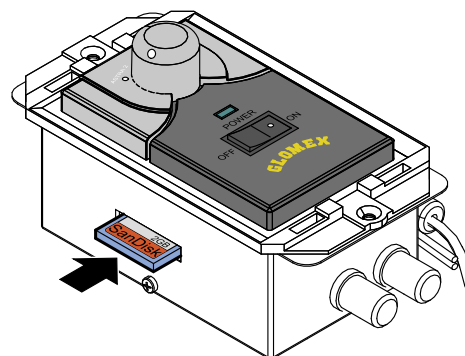

Fig. 27
3. Insert the SD card into the relevant slot on the control unit side, as indicated in **Fig. 27**, respecting the direction (side with manufacturer label up) and making sure you have completely inserted it.